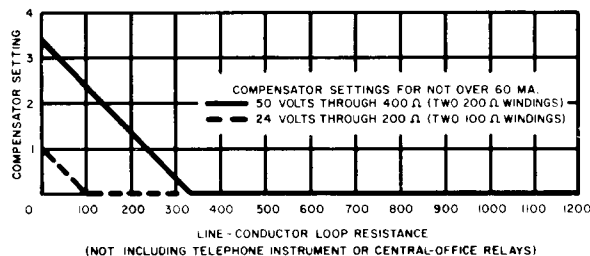

Figure 16. Compensator setting for loop resistance.
4.5.3 When the test board is equipped for line resistance measurements, dial the test board. Request line resistance measurements. Short circuit the line a few moments while the test board attendant measures loop resistance. Set the compensator according to figure 16.